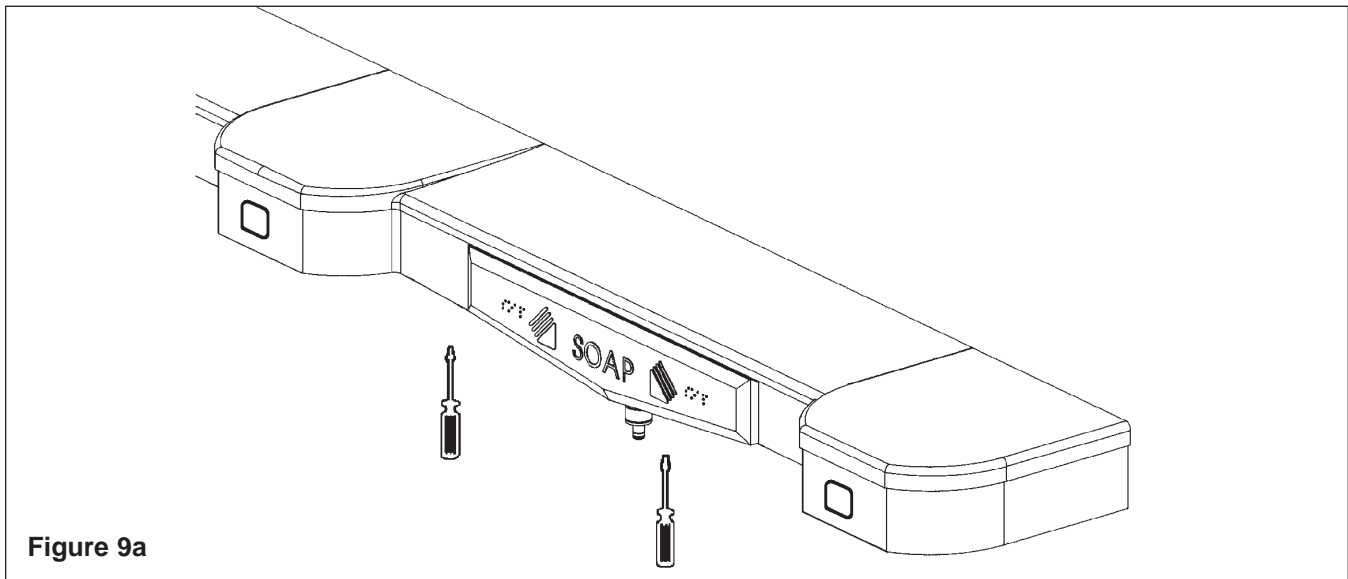

Figure 9a
1. Using two screwdrivers (or similar tool), push up on the release tabs located beneath the soap dispenser and pull out the soap tanks from the sprayhead (see Figure 9a).